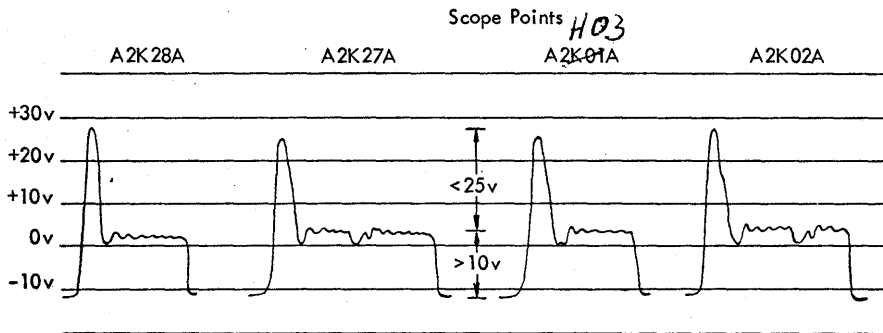

Figure 5-1a. Typical Waveforms for Good Cards
3. Observe the four scope points for possible defective card patterns. See Figure 5-1a and 5-1b.